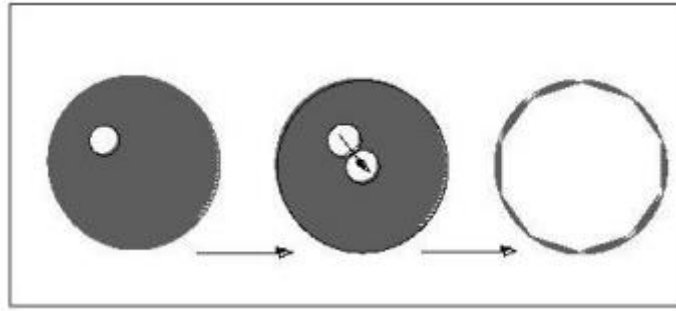
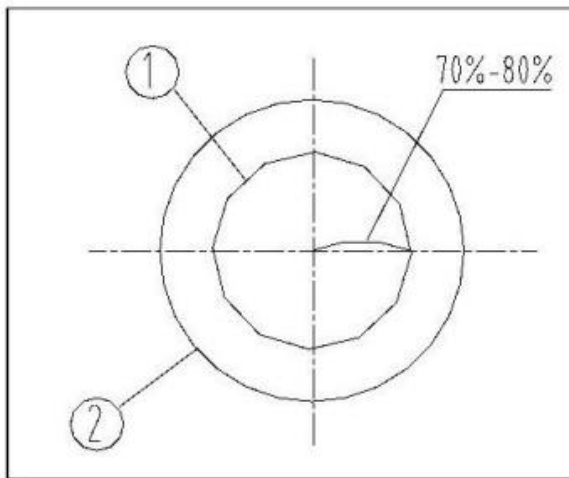

Figure 32
Figure 33
2. As the contrast is usually low, rotate the diaphragm adjustment ring ③ so that the arrowhead points to the corresponding magnification position on the condenser base ④. This adjusts the condenser aperture diaphragm to 70%-80% of the objective's N.A. If necessary, remove the eyepiece to observe from the tube. Adjust the ring ③ until the image appears as shown in Fig. 32 and adjust the proportion accordingly (see Fig. 33 & 34, where ① is the image of the aperture diaphragm and ② is the edge of the objective).